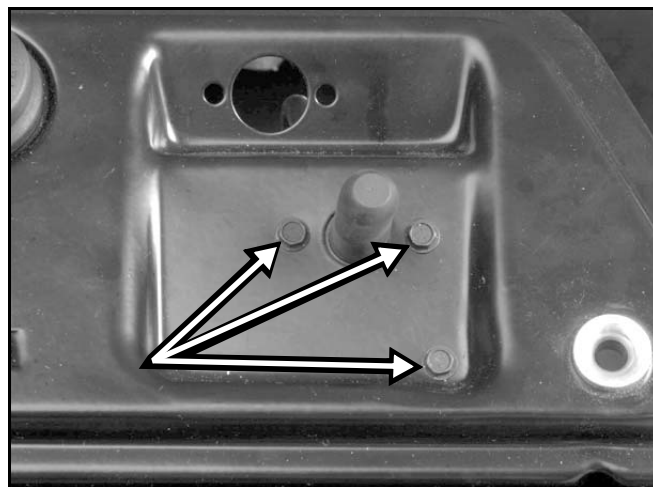

Figure 58 3428-0228
2. Remove three screws holding the switch box to the control panel support (Figure 58).